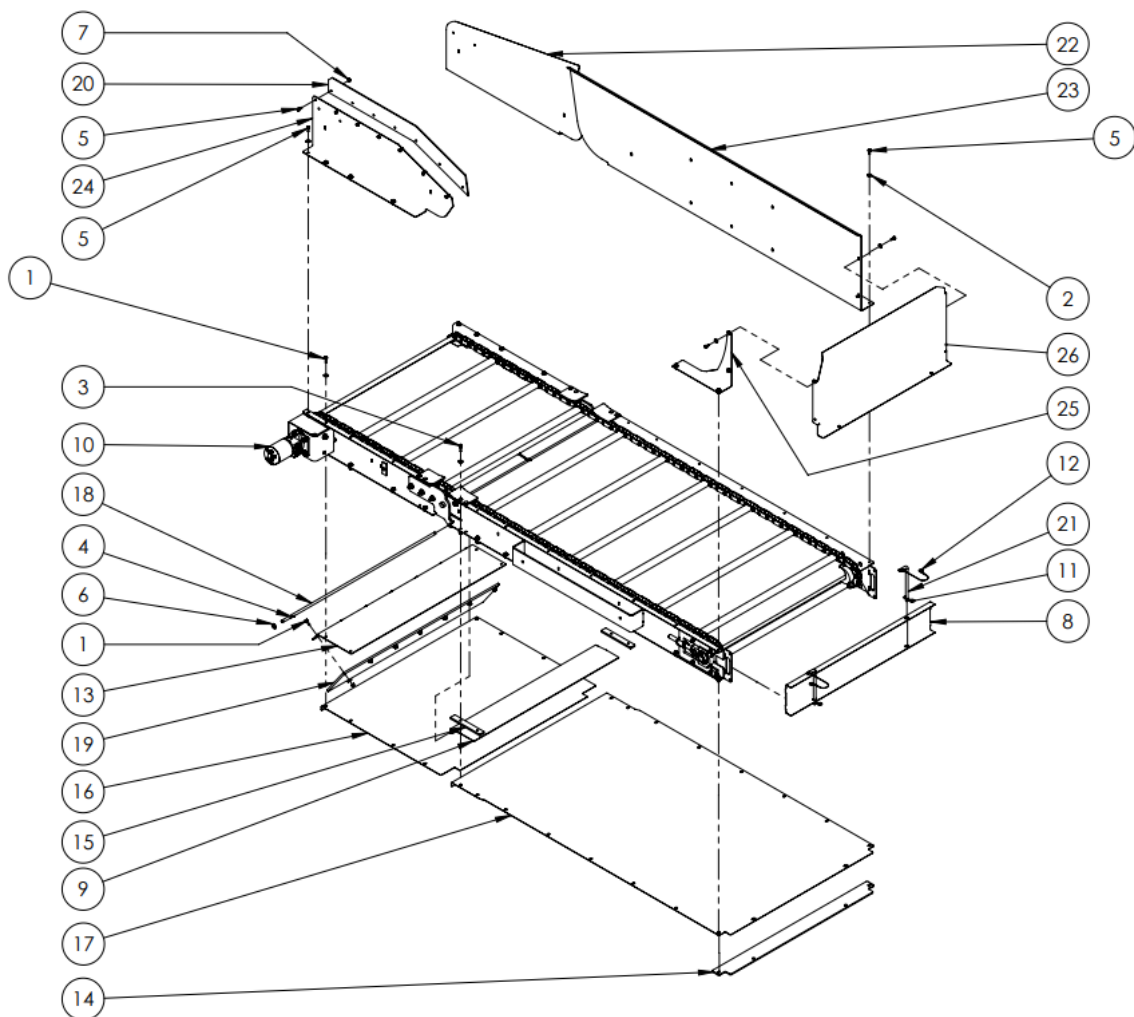

Figure 4: Left Hand Hydraulic folding Conveyor Assembly
5. The components of the left hand hydraulic folding conveyor assembly are assembled according to *Figure 4* and *Table 1*.
- i. Front shield (24) and the rubber spill guard (20);
- ii. Side shield (25);
- iii. Cleanout door (8);
- iv. Retainer pins (21);
- v. End shield (26).